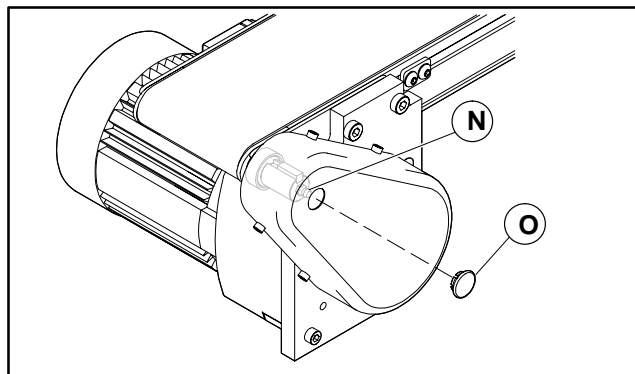

Figure 11
1. On 3" (70 mm) and wider conveyors, lubricate the pulley bearing on the drive side through the outboard drive shaft grease fitting (N of Figure 11).